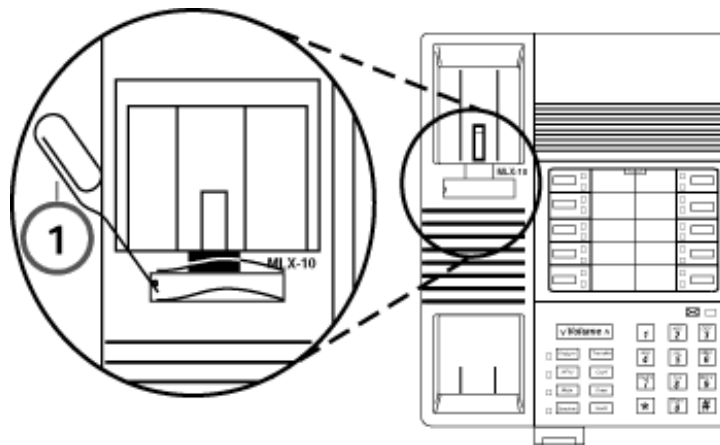

Figure 3-3. Removing the Extension Label
1. Remove the extension label by inserting a straightened paper clip into the hole on the side of the plastic cover while holding your finger on the opposite edge; use the paper clip to push and lift the cover. See Figure 3-3.